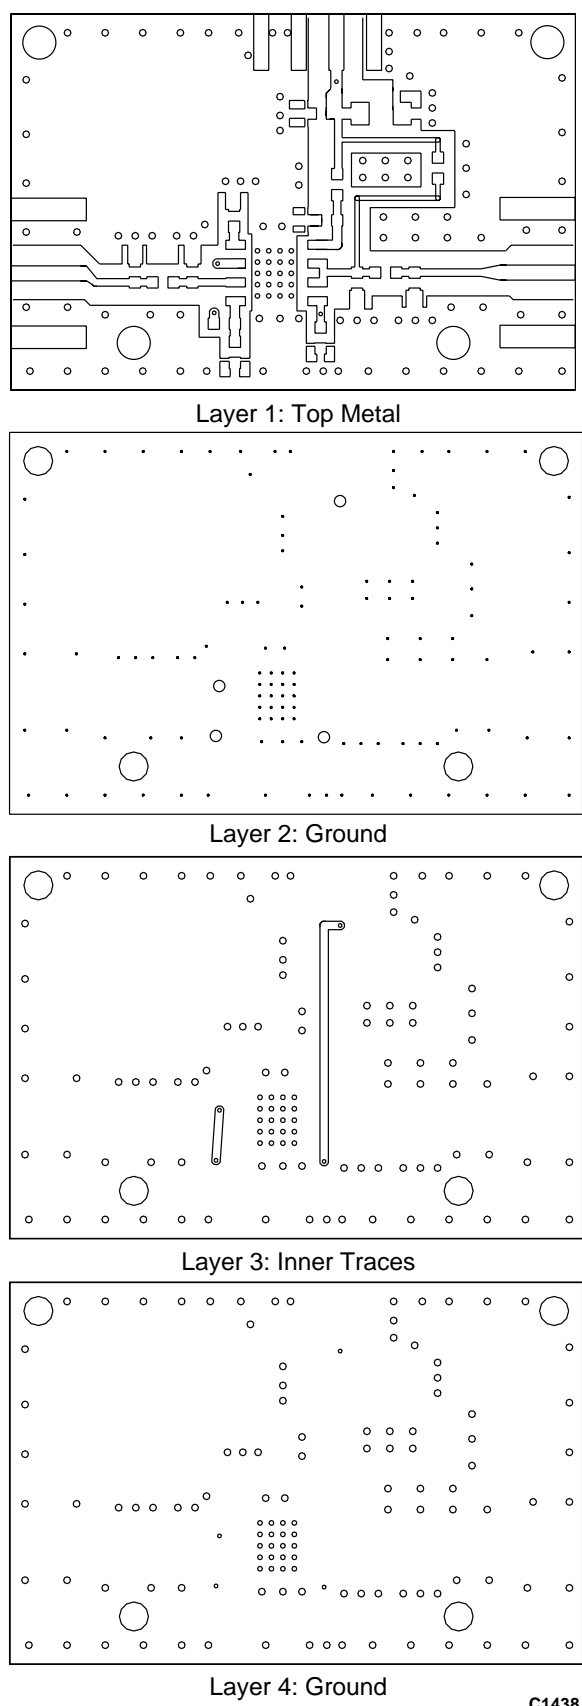
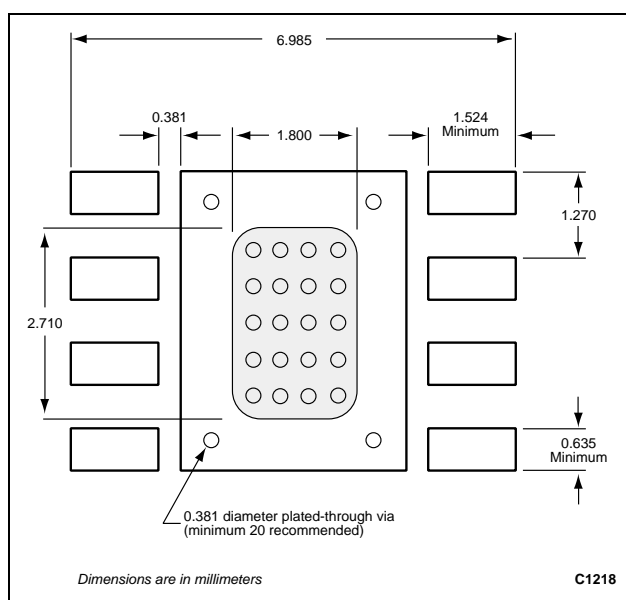

Figure 14. Evaluation Board Layer Detail
Figure 15. PCB Mounting Footprint
The CX65001 Evaluation Board is used to test the CX65001 power amplifier's performance. The CX65001 Evaluation Board schematic diagram is shown in Figure 12. The schematic shows the basic design of the board for the 375 to 475 MHz range. The Evaluation Board assembly diagram is shown in Figure 13 and the Evaluation Board layer detail is shown in Figure 14. Figure 15 provides the mounting footprint for the CX65001.
2. The ground pad of the CX65001 power amplifier has special electrical and thermal grounding requirements. This pad is the main thermal conduit for heat dissipation. Since the circuit board acts as the heat sink, it must shunt as much heat as possible from the amplifier. As such, design the connection to the ground pad to dissipate the maximum wattage produced to the circuit board. Multiple vias to the grounding layer are required (see Figures 14 and 15).